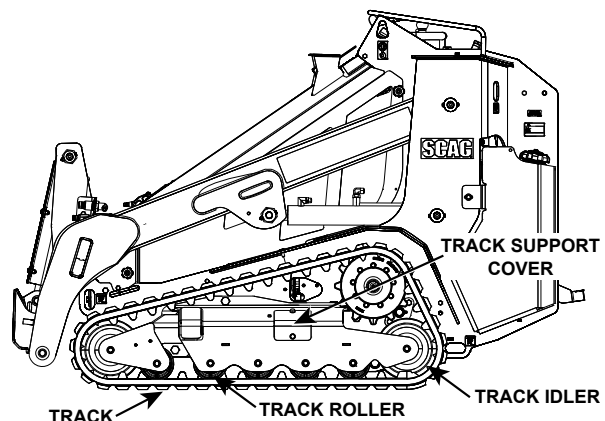

Figure 6-20. Track Support Cover
6. Loosen the bolts on the track support cover and remove the cover to access the track tensioner assembly. See Figure 6-20.